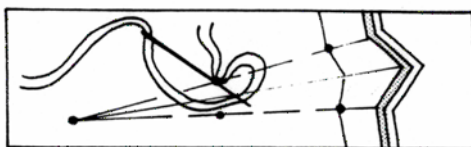

Figure 17
2. At each circle (dot on pattern) take a stitch through both fabric layers forming a 1-inch loop, leaving about 2 inches of thread at the beginning and at the end. (Figure 17)